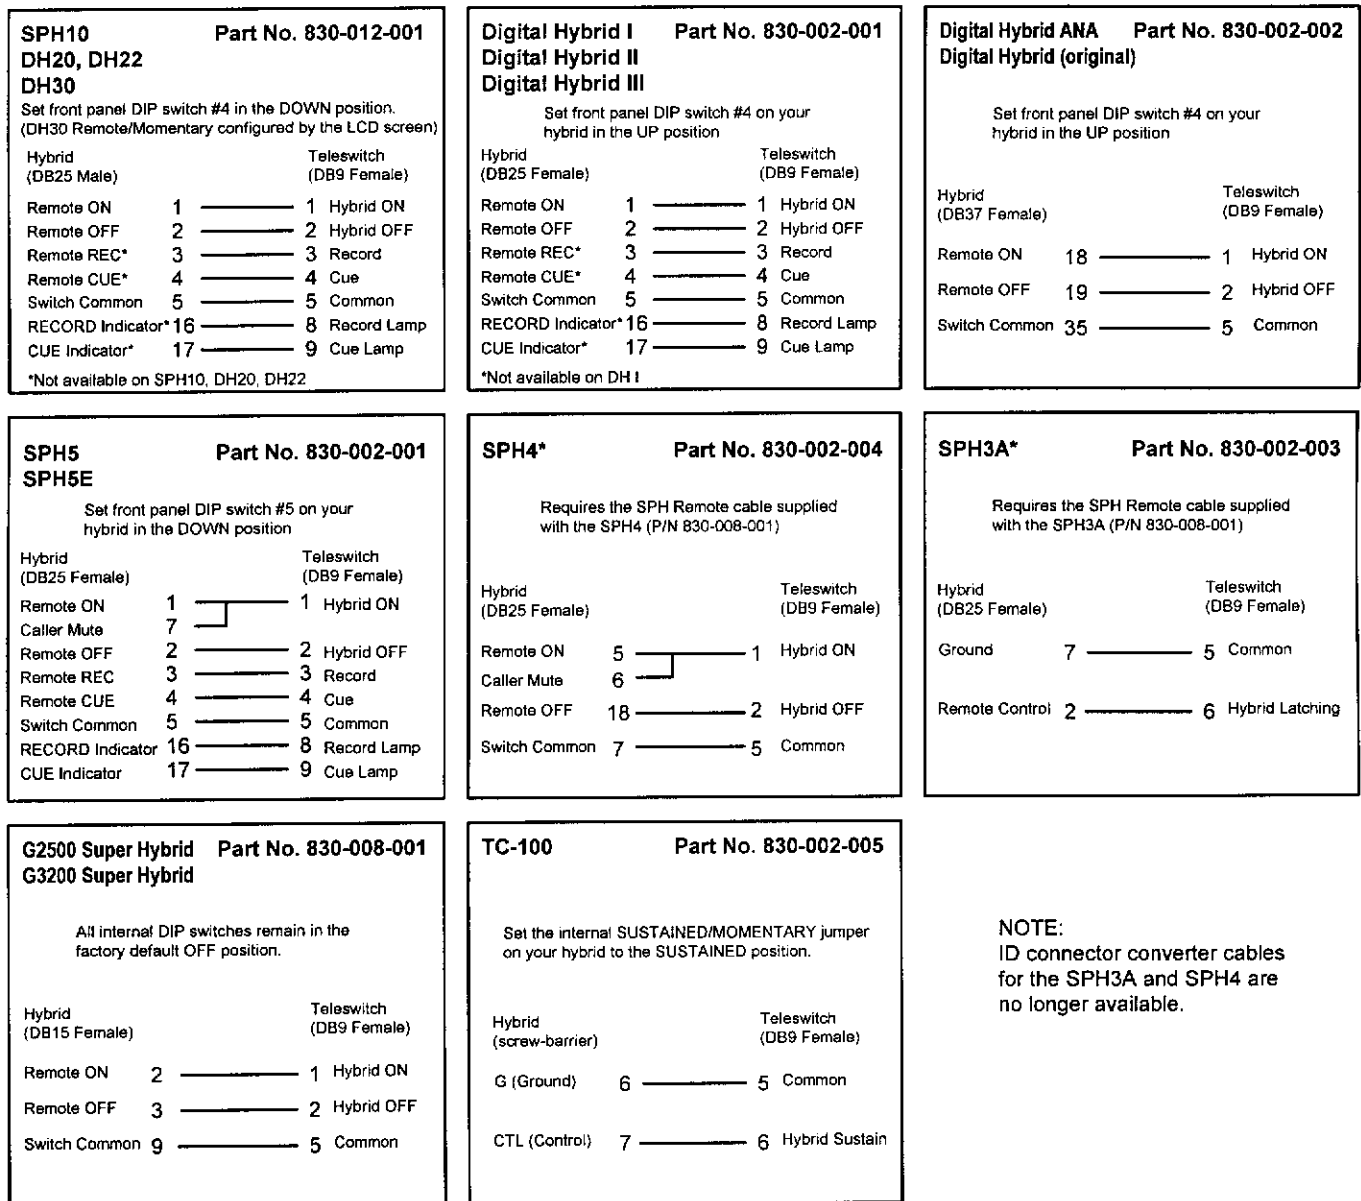

Figure 8
If you want to use these buttons for other operations such as a delay dump or to start a recorder, or reset a timer, the CUE pin (4) or REC pin (3) on the REMOTE connector can be connected to your contact closure device. This alternate use is particularly useful if your hybrid does not support Cue or Record functions. Refer to Figure 8 on page 16 for pin out information.
**Solution:** Wire the hybrid cable for the hybrid you are using, per Figure 8 on page 16.
**Solution:** Set the DIP switch or jumper per Figure 8 on page 16.